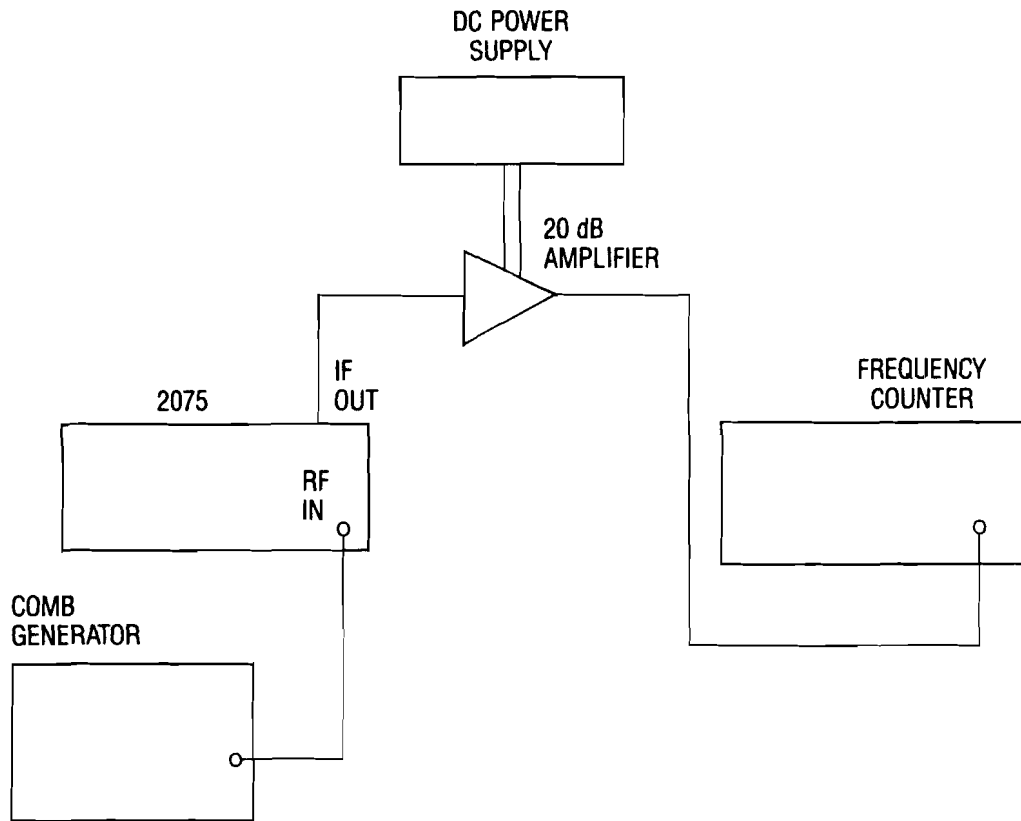

Figure 3-12. FREQUENCY ACCURACY SETUP
4. Set up the test equipment as shown in Figure 3-12. Set the comb generator for a 10 MHz comb. Adjust the comb generator output level until the frequency counter displays a stable count of approximately 30 MHz.